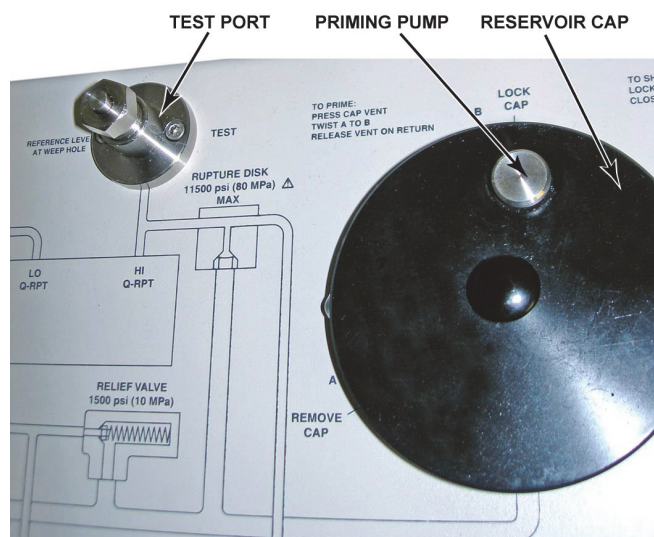

Figure 1: E-DWT top view
- ❶ Vent the unit and disconnect the power cable.
- ❷ Remove all external cables and plumbing connected to the unit.
- ❸ Plug test port, close reservoir vent, and make sure reservoir lid is tightened. (See Figure 1)
- ⑭ *Connect new power supply and open vent on reservoir for normal operation. (see Figure 1)*
- ⑮ *Test functionality to ensure there are no problems with the cable installation or power supply.*
- ⑯ *Dispose of old cable and old power supply.*